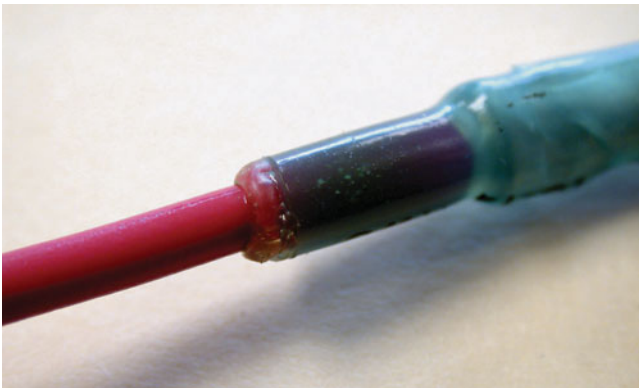

FIGURE 8-24 Heating the crimp-and-seal connector melts the glue and forms an effective seal against moisture.
STEP 3 Apply heat to the connector until the sleeve shrinks down around the wire and a small amount of sealant is observed around the ends of the sleeve, as shown in ● **FIGURE 8-24.**